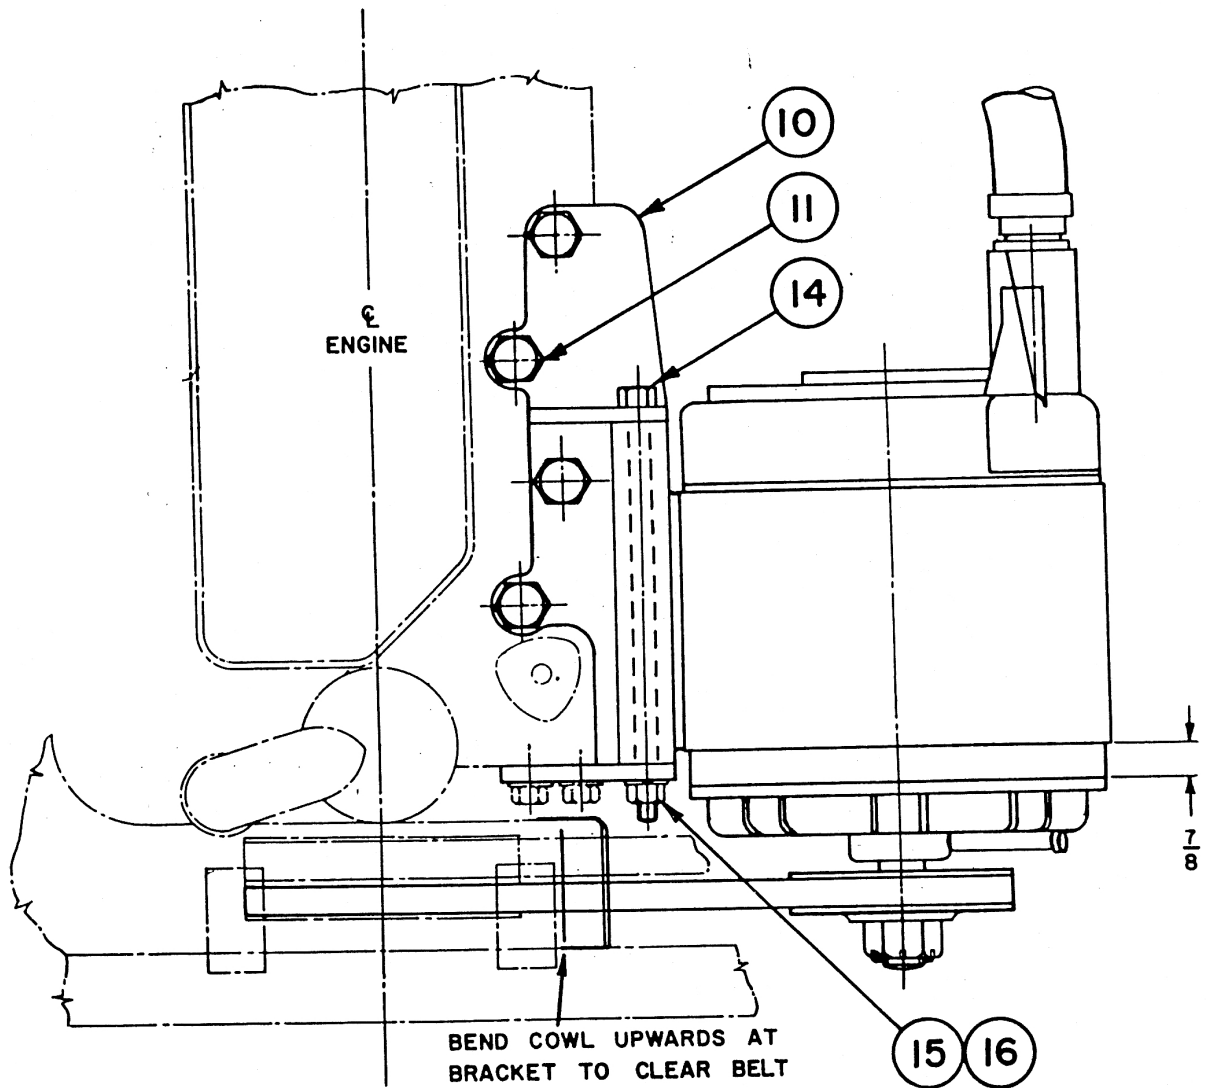
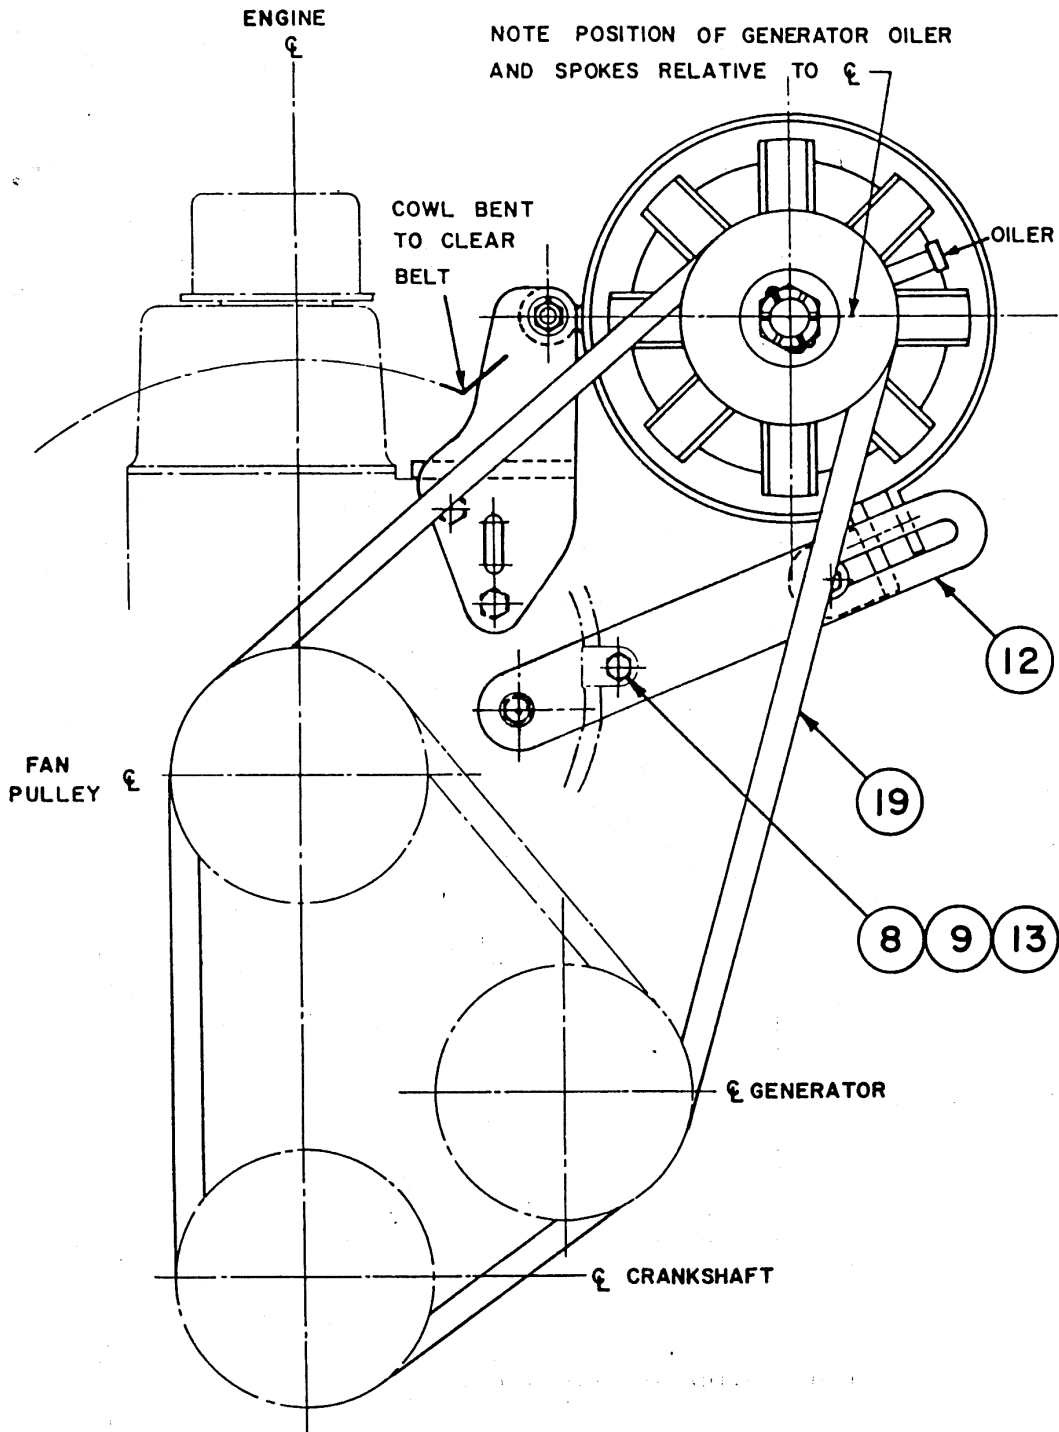

FIG 1 - FITTING OF ALTERNATOR TO ENGINE - PLAN
FIG 2 - FITTING OF ALTERNATOR TO ENGINE - END ELEVATION
- b. Fit the pulley (2) to the alternator (1) using the key (3), nut (4) and split pin (5).
- c. Attach the clamp assembly (6) to the alternator using the bolts (7), nuts (8) and spring washers (9) in the position indicated in figs 1, 2 and 3.
- d. Bend the end of the fan cowl to clear the new alternator belt (figs 1, 2 and 3).
12. Fit the bracket (10) using the four high tensile bolts (11) and the two bolts removed from the lifting eye (fig 1).
13. Remove the bolt holding the wiring harness clip on the front of the water pump and fit the stay (12) under this bolt.
14. Attach the wiring clips to the stay using bolt (13), nut (8) and lock washer (9). (Refer to fig 2.)
15. Mount the clamp and the alternator on the bracket using bolt (14), nut (15) and lock washer (16) (fig 1).
NOTE: The position of the grease nipple on the alternator relative to the clamp hinge must be as shown in fig 2 to ensure that the cable outlet clears the carburettor.